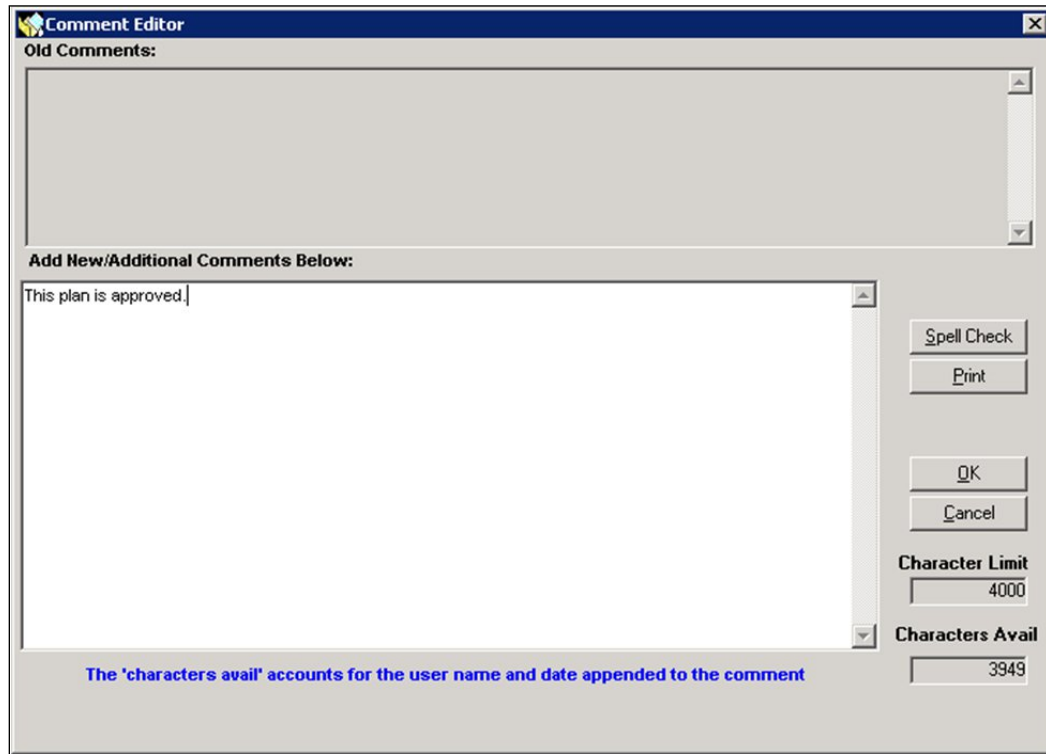

Figure 6-15: Subrecipient Mitigation Plan Comment Editor
- c. Click the APPEND button. The Comment Editor is displayed (Figure 6-15).